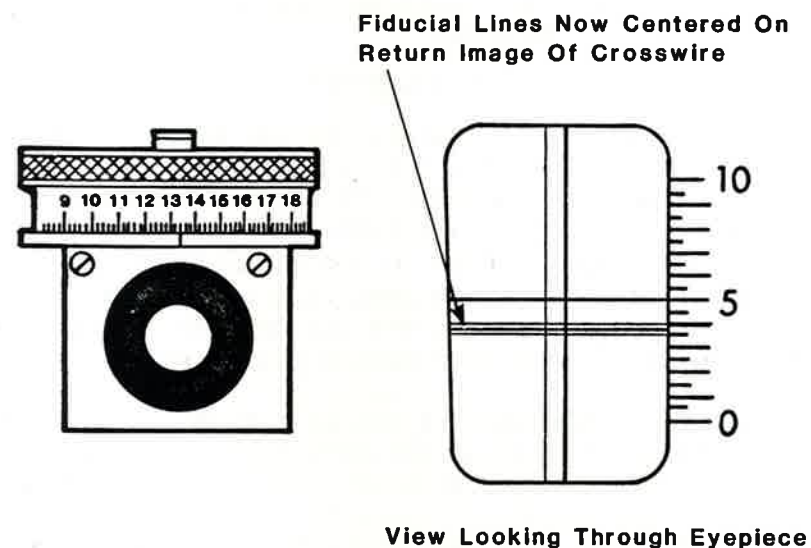

Figure 4. Micrometer Centering and View Through Eyepiece After Centering Lines
3. Adjust until these wires precisely bracket the return image, as shown in Figure 4.
For example, the fiducial in Figure 4 is slightly past the 3 1/2 minute mark. The micrometer drum at that time reads 13.4 seconds. (Remember that each of the small divisions equals 0.2 second). The sum of these values (3 minutes and 43.4 seconds) is the reading.